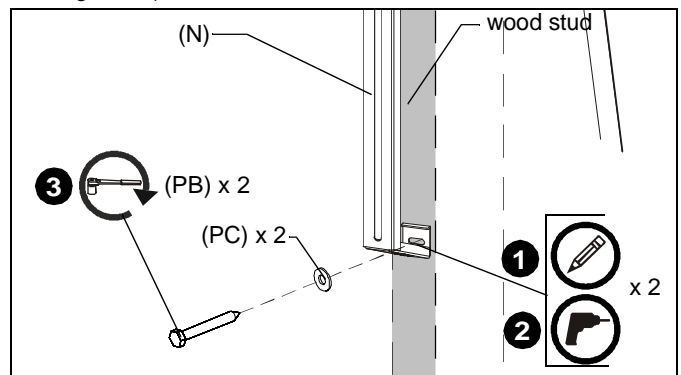

Figure 13
1. Mark the wall over stud through the fixed wall leg (N) on each upright assembly. (See Figure 13)
2. Drill one 1/8" pilot hole in each stud. (See Figure 13)
3. Use two 1/4-20 x 2-1/2" lag bolts (PB) and two 1/4" flat washers (PC) to attach both fixed wall legs (N) to wall. (See Figure 13)